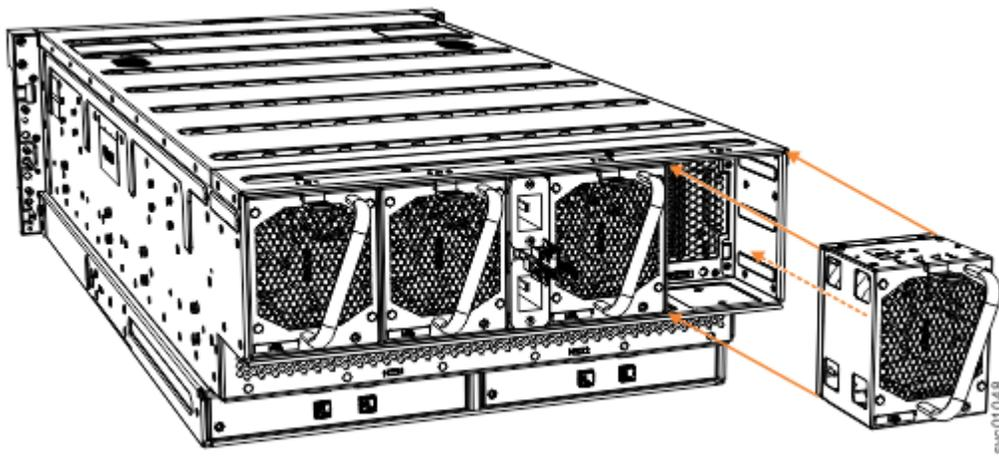

Figure 122. Remove fan module
3. Use the handle to pull the fan module out of the expansion enclosure chassis, as shown in Figure 122 on page 112.